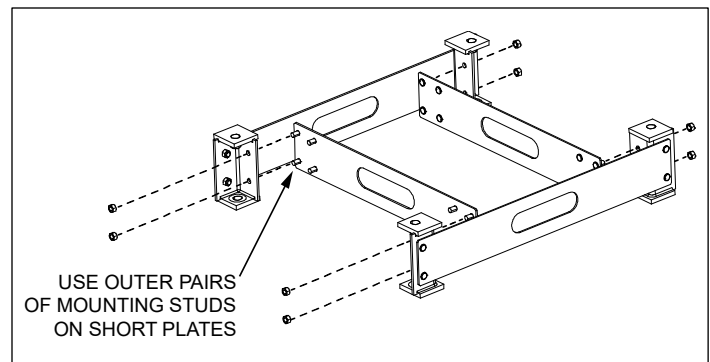

Figure 8
5. Attach the short plates to the inside faces of the corner brackets as shown in Figure 8. Use the outer most pairs of mounting studs to attach to the corner brackets.